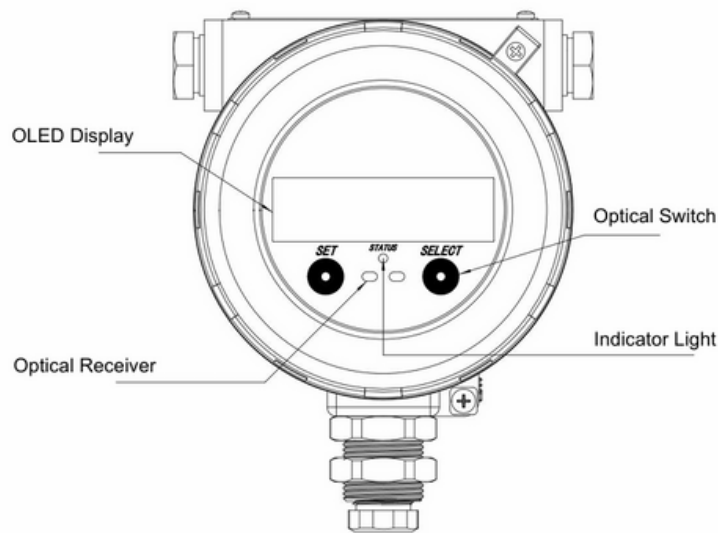

Figure 2
- A circular OLED display and three touch-free optical keys (SET, STATUS, SELECT) for configuration and operation (see Figure 2 and Figure 3).